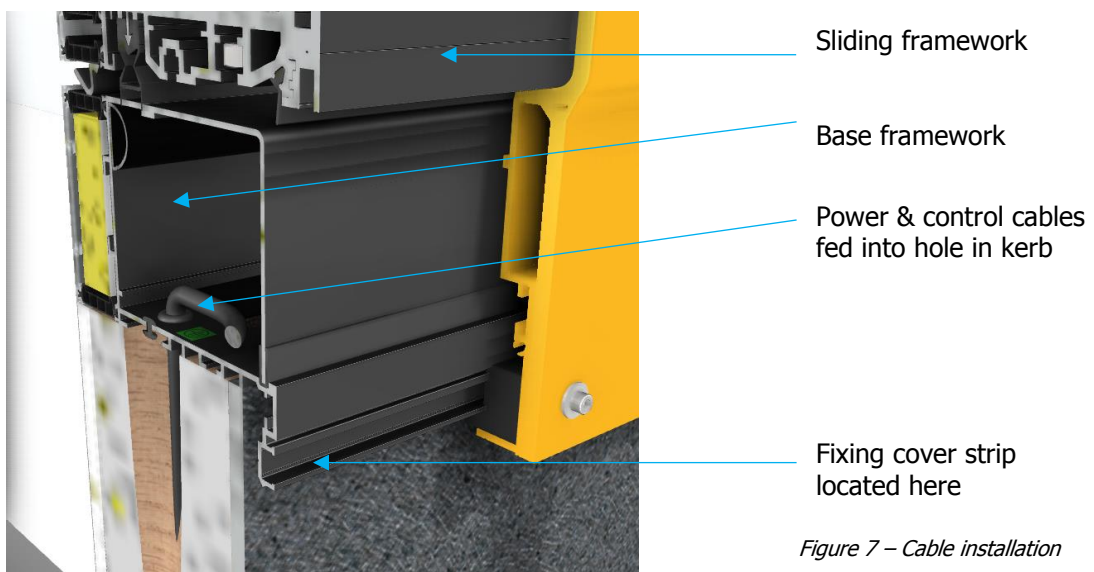

Figure 7 – Cable installation
16. Secure rear flashing to base frame with 9 fixings provided (*Figure 7*).